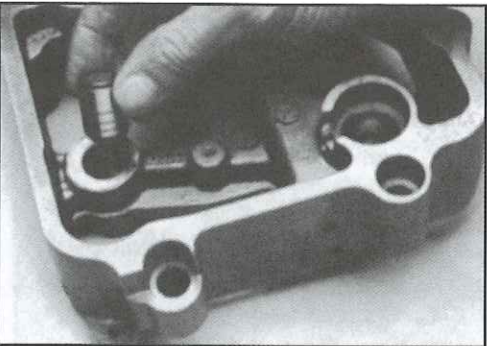

Fig. 45
2. Remove master piston from its bore using needle nose pliers to initially pull the piston out, if necessary. If binding occurs, check for burrs or contaminants in lube oil. Clean in an approved solvent. Inspect the hard face surface (Fig. 45). Pitted, chipped, cracked or galled pistons should be replaced.